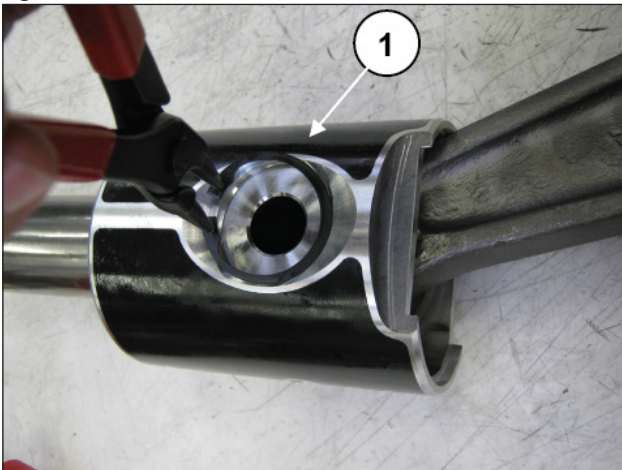

Fig. 43
Remove the two spindle pin circlips using circlip pliers (pos. ①, Fig. 43).